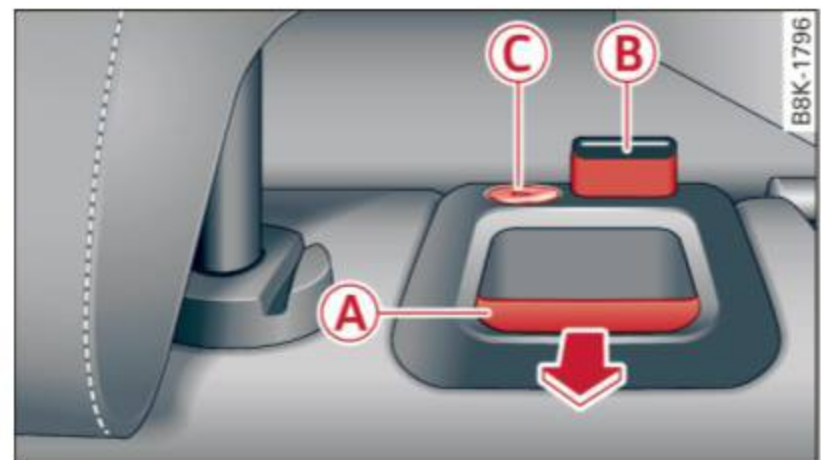

Fig. 76 Backrest: release lever, securing knob and latch*
- ▶ Pull the release lever **A** ⇒ fig. 76 in the direction of the arrow and fold the backrest forward.
⇒ page 34 © ⇒ fig. 76. This prevents any access to the luggage compartment from the vehicle interior.